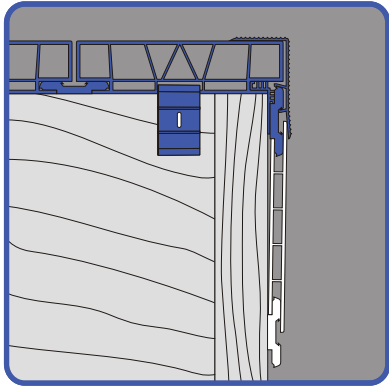

Figure 9
Step 8. Slide fascia under the finishing trim and around anchor biscuits to conceal rim joists (see Figure 9). Slide anchor biscuits into the slot along the bottom of the fascia. Place one biscuit every 16" along the bottom of the fascia. Secure each anchor biscuit to the rim joist by driving a 1½" deck screw through the slot.
Step 2. Notch **Quadra** Deck boards to fit around the rail posts (see Figure 9). The notch should be ½" wider than the rail post in every direction. The notch for a 4 × 4 rail post should be 4½" wide × the required notch depth + ½".